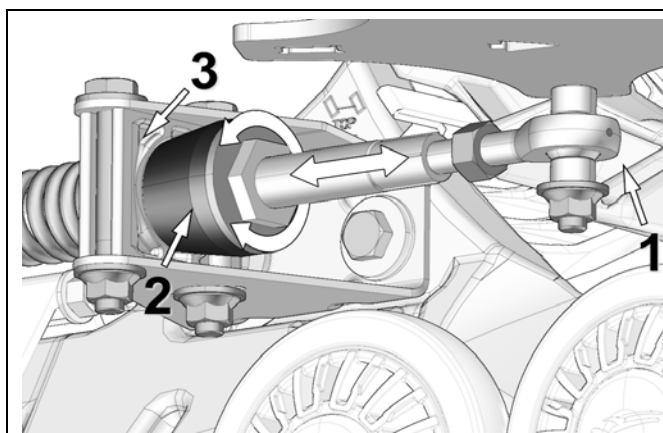

Figure 13
- Turn stabilizing arm nut to adjust length of rod end (1) so that rubber cone (2) applies light pressure on anti-rotation retainer (3). See Figure 13.